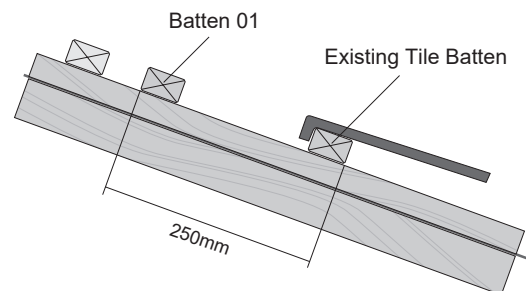

Figure C-1: Fireproof membrane extends down 250mm from top of batten 01
7. Starting from the left-hand side of the installation, position the first section of membrane to run vertically up the roof with the left-hand edges on the 100mm mark. Ensure that this first section runs at right angles to the roof battens and that it extends 250mm down from the top edge of batten 01. See Figure C-1. Then fix it in place with either small screws, tacks or small nails at each corner.